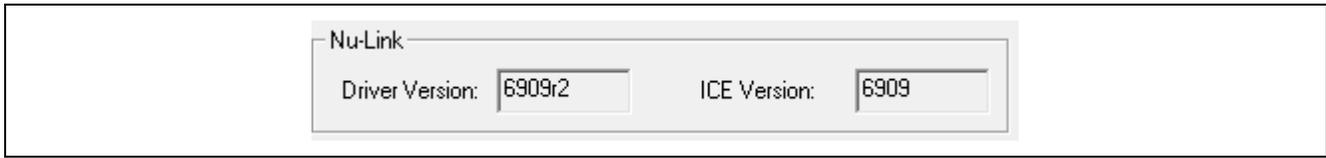

Figure 4.1-2 Nuvoton Nu-Link Keil Driver Version
- If user needs to modify the source code, Nuvoton Nu-Link Keil should be updated to V3.02.6909 or later, as shown in Figure 4.1-2.